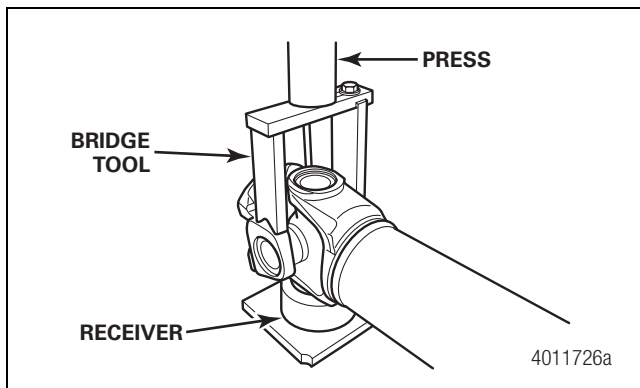

Figure 4.46
3. Install a press bridge tool (SPX ICM Kent-Moore tool number J-42368-1) on the ears of the drive flange and a bearing cup bushing receiver (SPX Kent-Moore tool number J-42368-2) underneath. Figure 4.46.